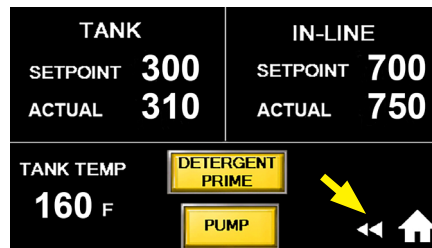

Fig. 39c - Tank and In-line Sensors ON
7. Press the 'Back-up' button (◀◀), (Fig. 39c), to return to the Supervisor menu, (Fig. 39c).